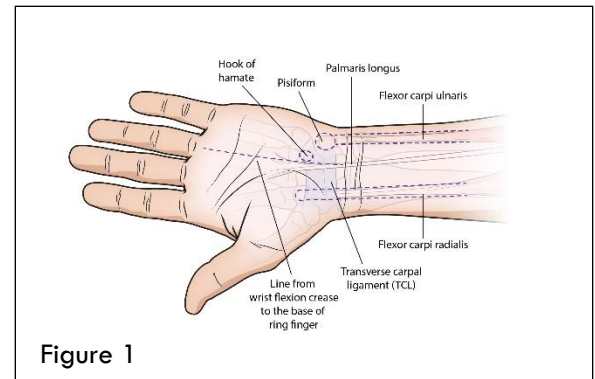

Figure 1
- Hook of the hamate (HH)
- Select one of the wrist flexion creases and mark a 1-2cm transverse line between FCR and FCU. [Figure 1] Use the proximal wrist crease for thinner soft tissue, or the distal crease if a cosmetic result is desired.